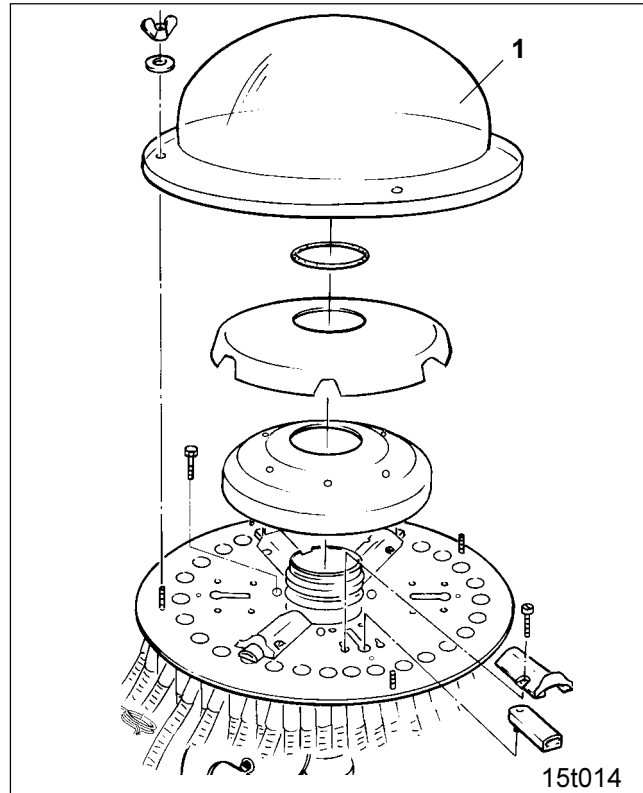

Fig. 50.3
- the translucent plastic flap (Fig. 50.3/1)